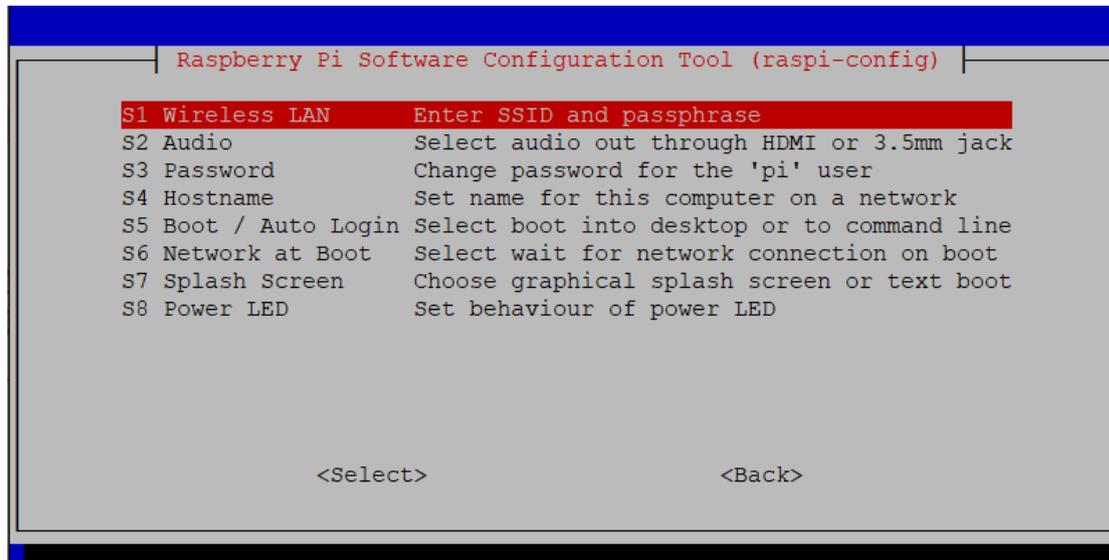

Figure 111 Enter WiFi SSID and password
Step 3. WiFi SSID and password can be entered with this interface too. Select item 1 “System options”, then select “S1 Wireless LAN” to enter the WiFi’s SSID and password (Figure 111). Reboot the gateway to apply the changes.